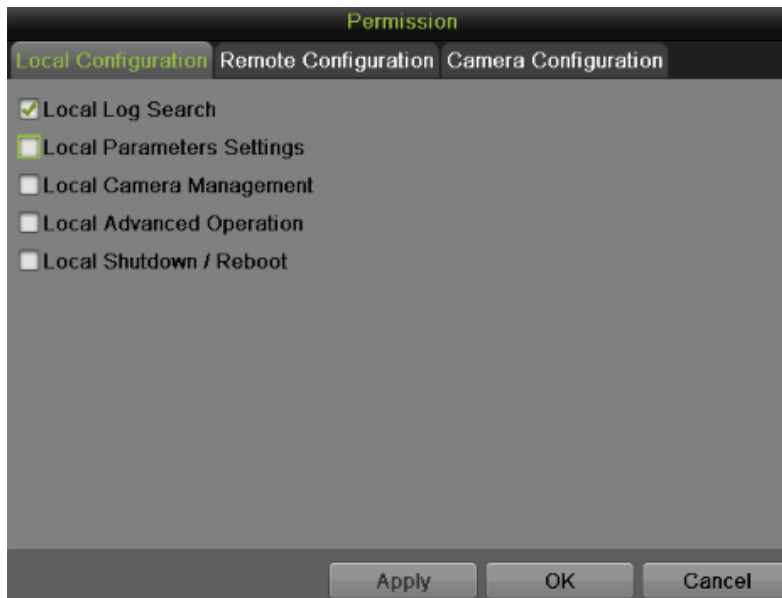

Figure 83 Permission Settings Menu
2. Click  to enter the Permission interface, as shown in Figure 83.